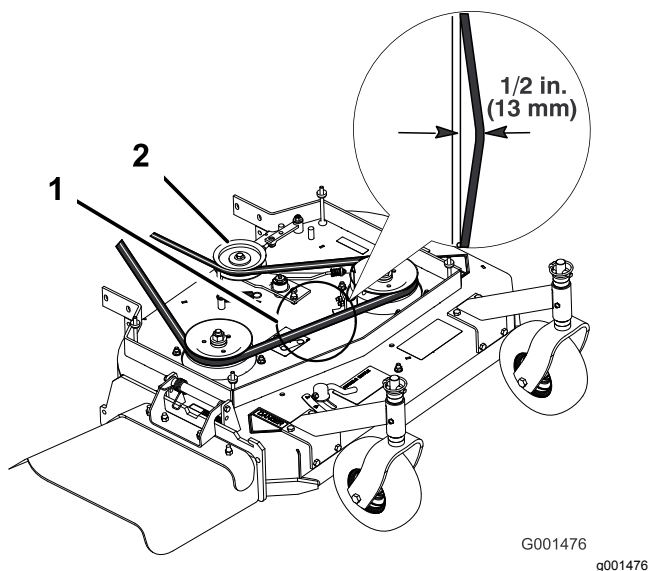
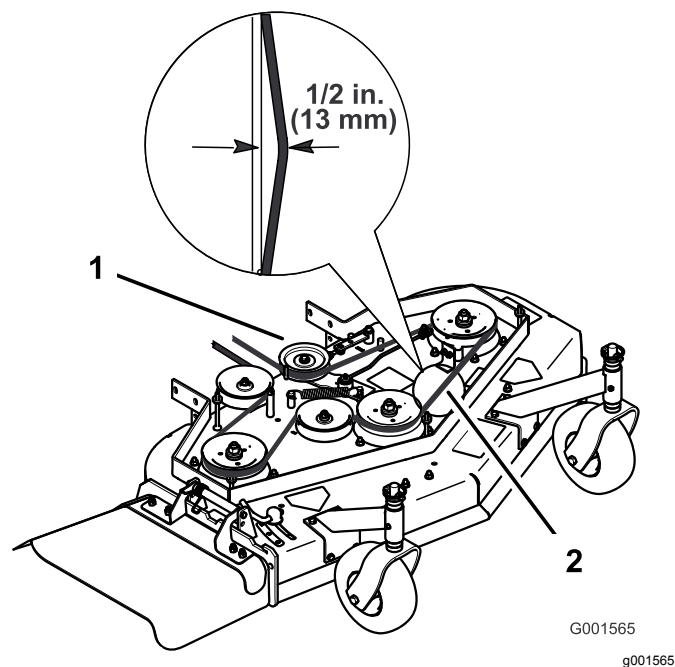

Figure 42
Figure 43
Note: The proper mower belt tension is 44 to 67 N·m (10 to 15 ft-lb) with the belt deflected 13 mm (1/2 inch) halfway between the pulleys (Figure 42 or Figure 43).
3. Loosen the locknut on the turnbuckle (Figure 42).
- Rotate the turnbuckle toward the front of the machine to decrease the tension on the belt (Figure 42).
Note: The proper mower belt tension is 44 to 67 N·m (10 to 15 ft-lb) with the belt deflected 13 mm (1/2 inch) halfway between the pulleys (Figure 42).
- Rotate the turnbuckle toward the front of the machine to decrease the tension on the belt (Figure 43).
Note: The proper mower belt tension is 44 to 67 N·m (10 to 15 ft-lb) with the belt deflected 13 mm (1/2 inch) halfway between the pulleys (Figure 43).